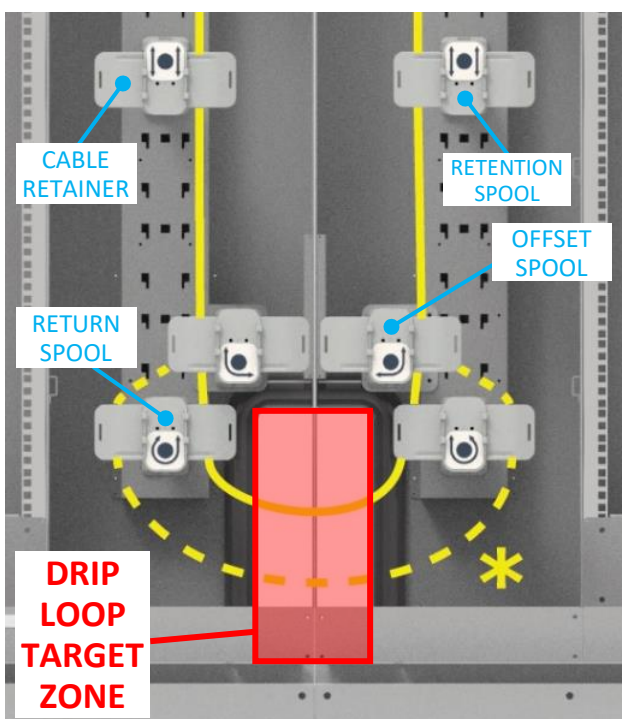

Figure 25. Cable Transition Between Frames
- PATCH CORDS – For each patch cord, use the routing spool A-G that results in the cable slack transitioning between frames in the Drip Loop Target Zone, shown in Figure 25.
- PATCH CORDS – If the Offset spools do not accommodate all slack, route patch cords around the Return spools, following the dashed path* in Figure 25.